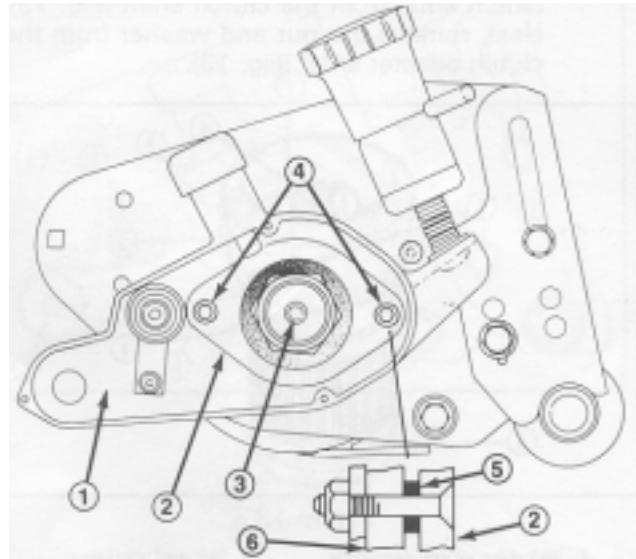

Figure 8
- D. Install flathead screws (3/8-16 x 1-3/4") through bearing adapter and position spacers on the ends of the screws. Align bearing adapter and spacers with bronze bearing and slots in groomer belt housing. Mount belt housing assembly to cutting unit bearing housing and torque flathead screws to 17-21 ft-lb. Assemble locknuts to the flathead screws and torque to 23-27 ft-lb (Fig. 8)